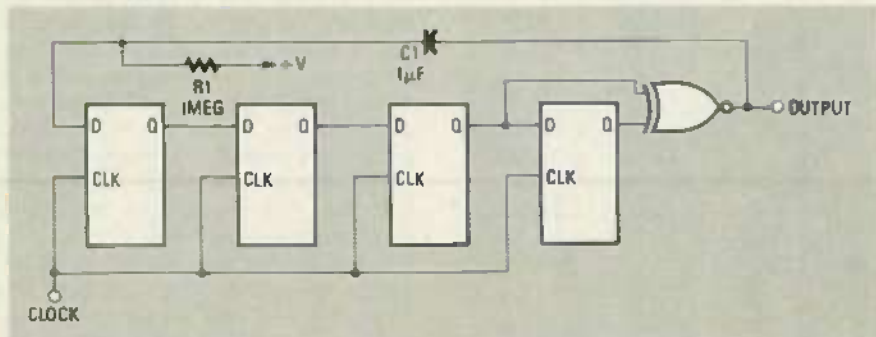

FIG. 1—A PSEUDO-RANDOM sequencer. Due to an error, the schematic shown in the Sept. Issue for this circuit was incorrect. The correct circuit is shown here.
Figure 1 shows an electrocardiogram of a patient in ventricular fibrillation. The region labeled A shows irregular, nonrepeating voltage fluctuations. A defibrillating shock of about 1,000 volts is applied at B. That causes the electrocardiogram amplifier to overload. For a period the electrocardiogram shows a signal with an elevated baseline, then the amplifier saturates again (C). After a few seconds the heart begins to beat slowly (D), though not in a normal manner.
FIG. 1—ELECTROCARDIOGRAM of a patient with ventricular fibrillation. At point *b* defibrillation (the applying of a voltage) is performed. A heartbeat, although abnormal, slowly begins to appear after several seconds (*d*).
Part 7 BEFORE WE GET TO our topic for this month, let's clear up an error that appeared in our last installment (September 1985). Among the circuits that we looked at then was a shift register called a pseudo-random sequencer. Due to a mix-up, an incorrect schematic was shown for that circuit (Fig. 15 in that issue). The correct schematic is shown here in Fig. 1.